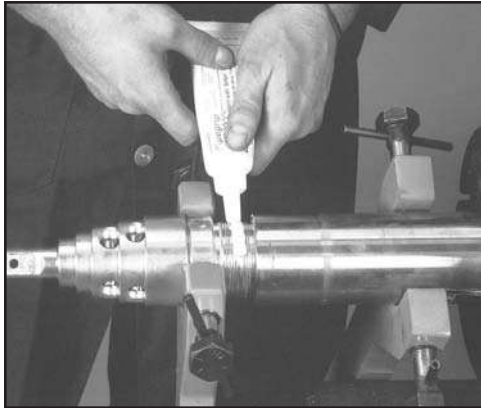

FIG. 34: APPLY LOCTITE TO THREADS
18. Apply Loctite in a zig-zag fashion over the length of the threads on the casing tip (see Fig. 34).